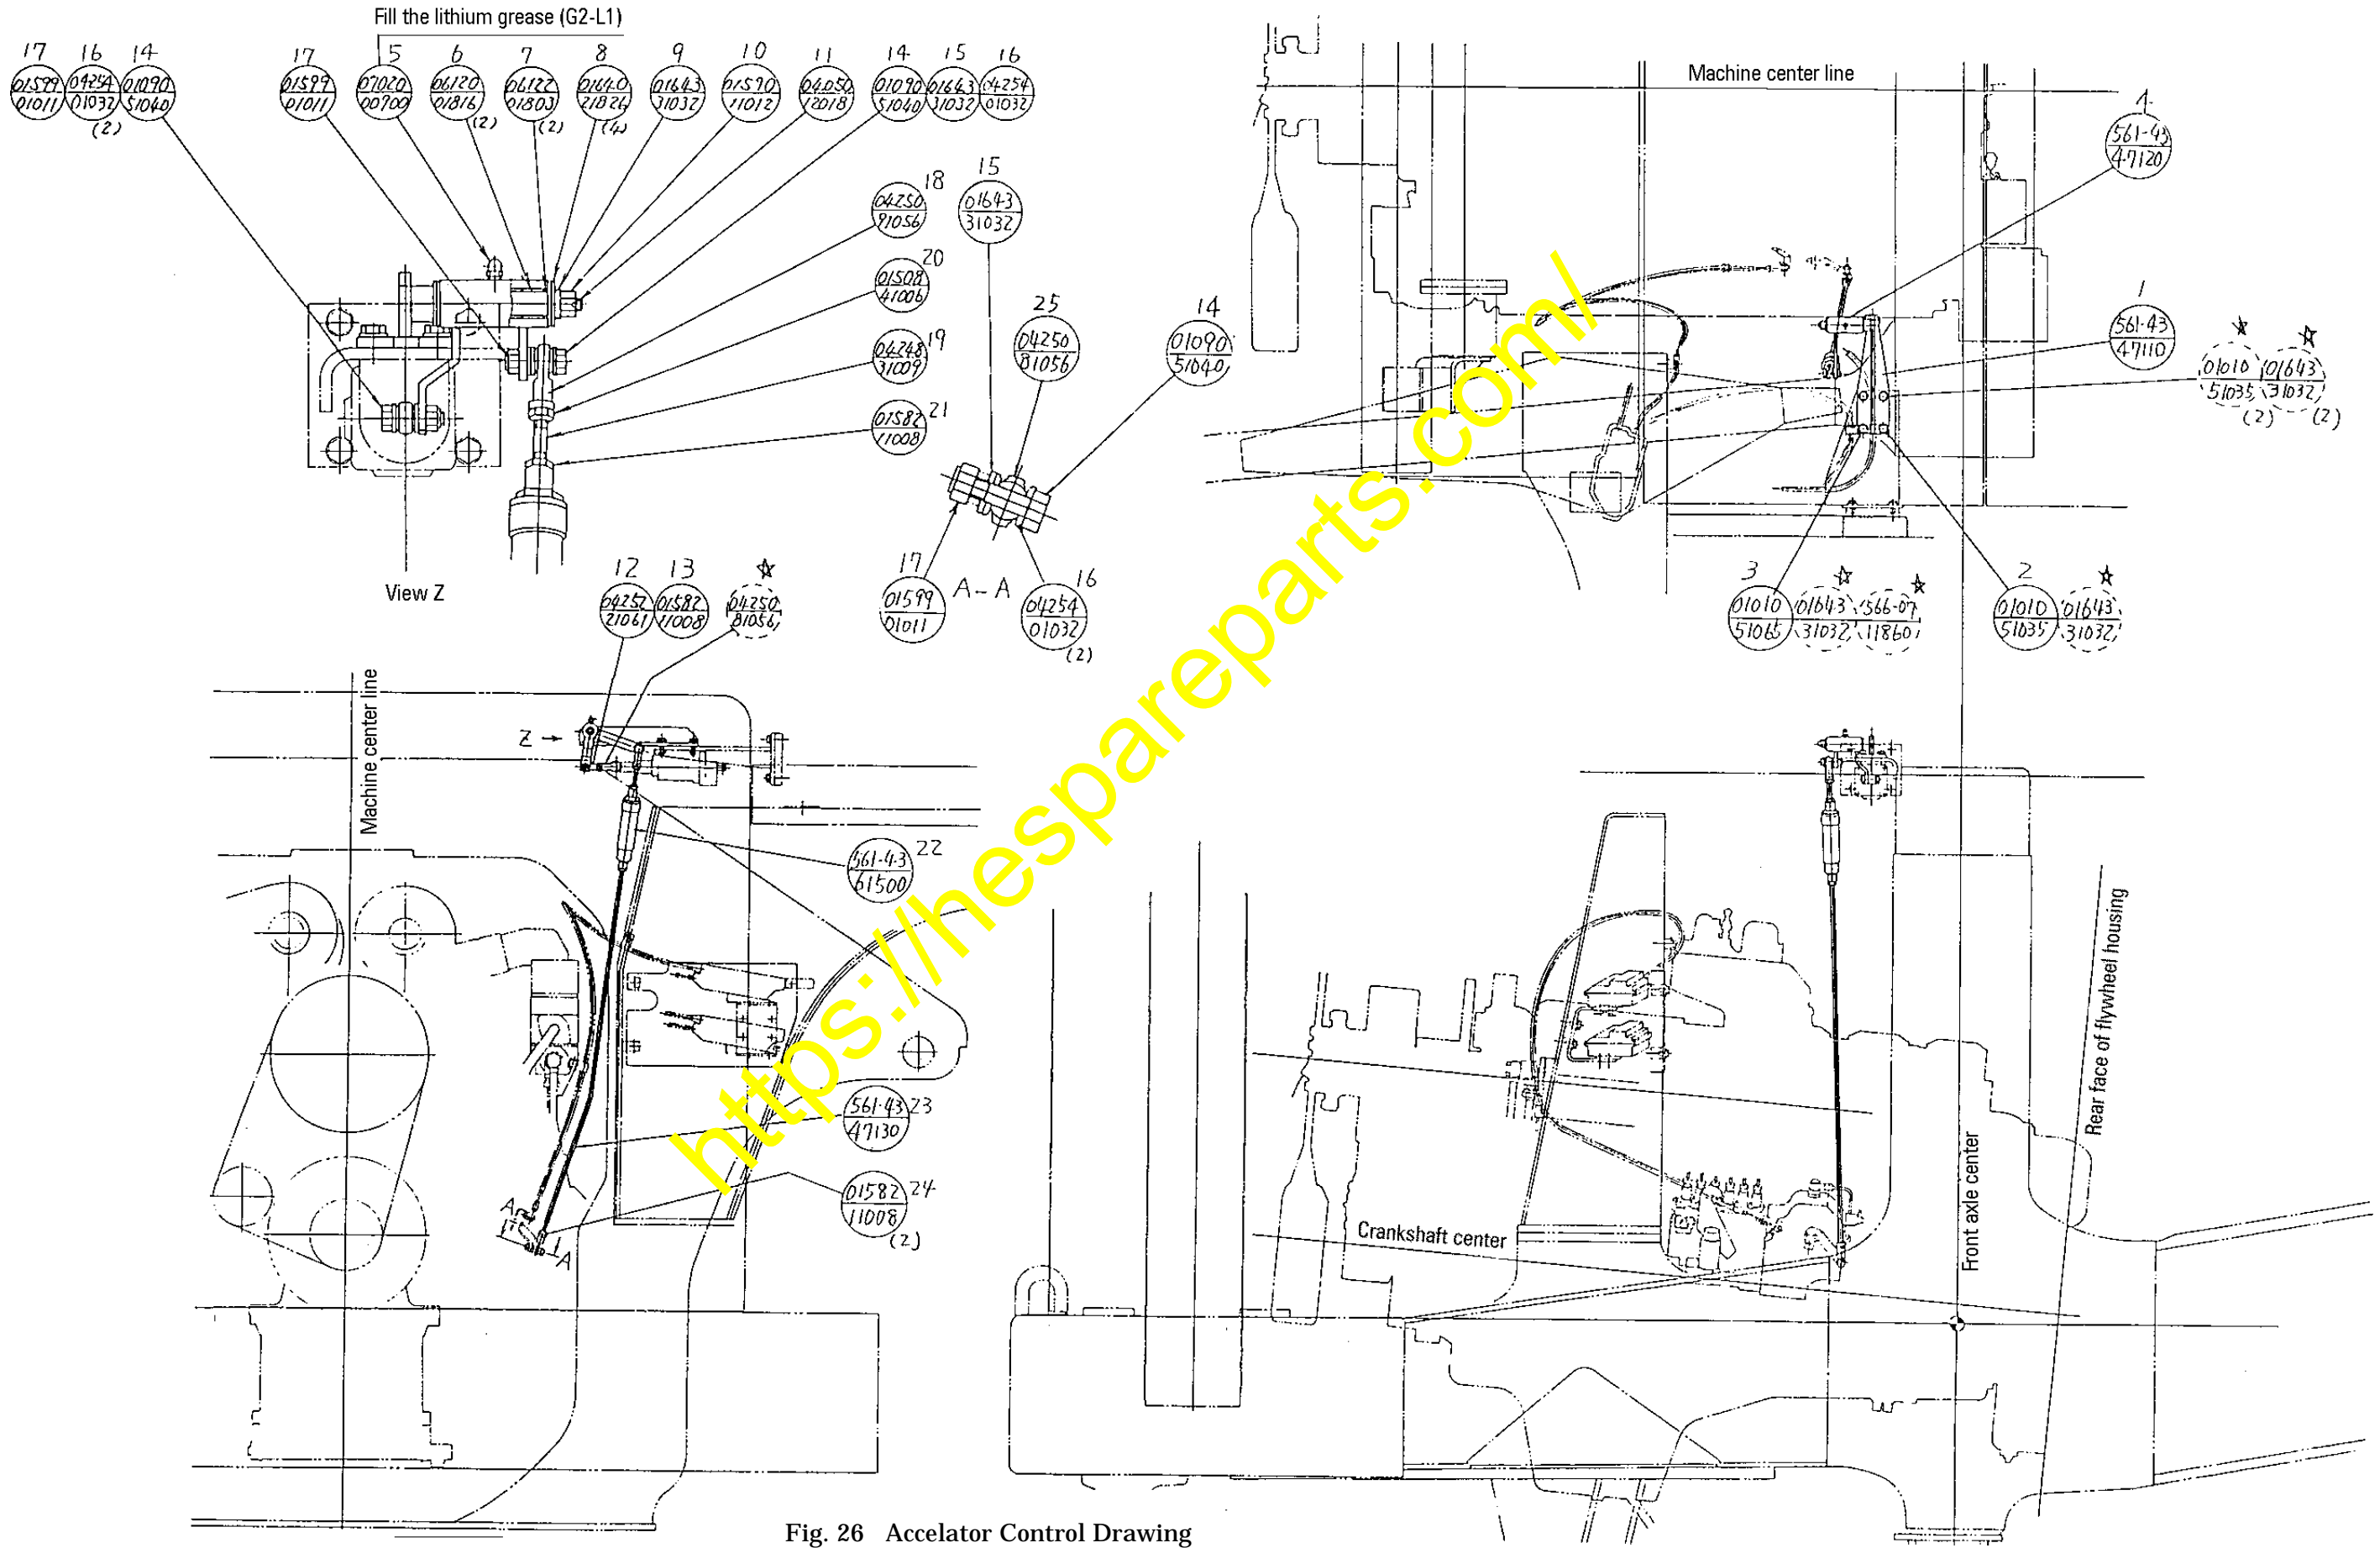

Fig. 26 Accelator Control Drawing
- (2) Install the newly supplied accelator control linkage. (See Fig. 26)
- 1) Start the engine. Release the accelerator pedal to let it return to the slow side position of two-stage idling. (See Fig. 26 a)
- 2) While the speed control lever on the engine side is kept in contact with the slow-speed idling side stopper, fit the linkage and make sure that engine speed is 675 ± 25 rpm. (See Fig. 26 b)
- 3) Loosen the absorber lock nut and the rod end nut. Turn the absorber one rotation in the direction shown by the arrow. (See Fig. 26 c)
- 5) Set the accelerator pedal to the engine full throttle position. Make sure that the speed control lever on the engine side touches the stopper on the full-throttle side and the absorber is elongated fully. (See Figs 26 a, 26 c)
Fig. 26 a
Fig. 26 b
Fig. 26 c
- (4) ABSORBER ASSEMBLY (561-43-47130) is shown in disassembled view (See Fig. 26 d) together with the component part list below.
Fig. 26 d